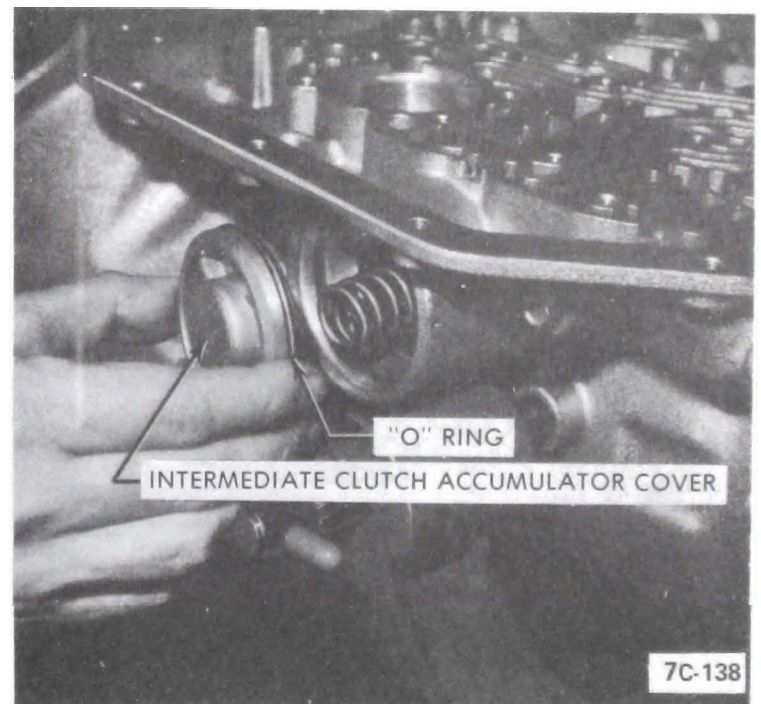

Figure 7C-141
five (5) pump cover to body attaching bolts. Remove spring seat retainer. See Figure 7C-143.